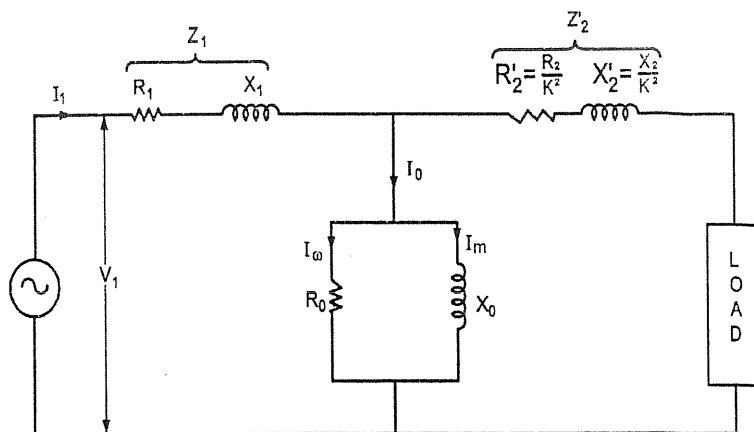

FIG. 3.30
(1) Secondary resistance referred to primary $R_2' = \frac{R_2}{K^2}$
(2) Secondary reactance referred to primary $X_2' = \frac{X_2}{K^2}$
(3) Secondary current referred to primary $I_2' = \frac{I_2}{K}$
- Fig. 3.30 shows the equivalent circuit with all secondary values referred to the primary.